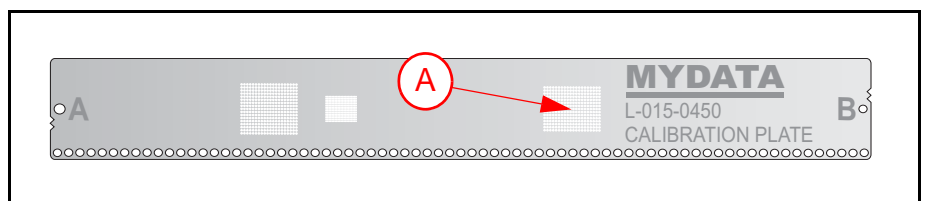

Figure 9-2. L-015-0450 Area calibration plate.
The area calibration plate in Figure 9-2 has multiple functions. The plate is used for adjusting the X-wagon camera focus, calibrating the camera optics and calibrating the place area.
- If not already done, insert the area calibration background and area calibration plate (Figure 9-2) as described in Chapter 4.
3. When prompted, center the camera on the area calibration plate pattern ('A' in Figure 9-2).